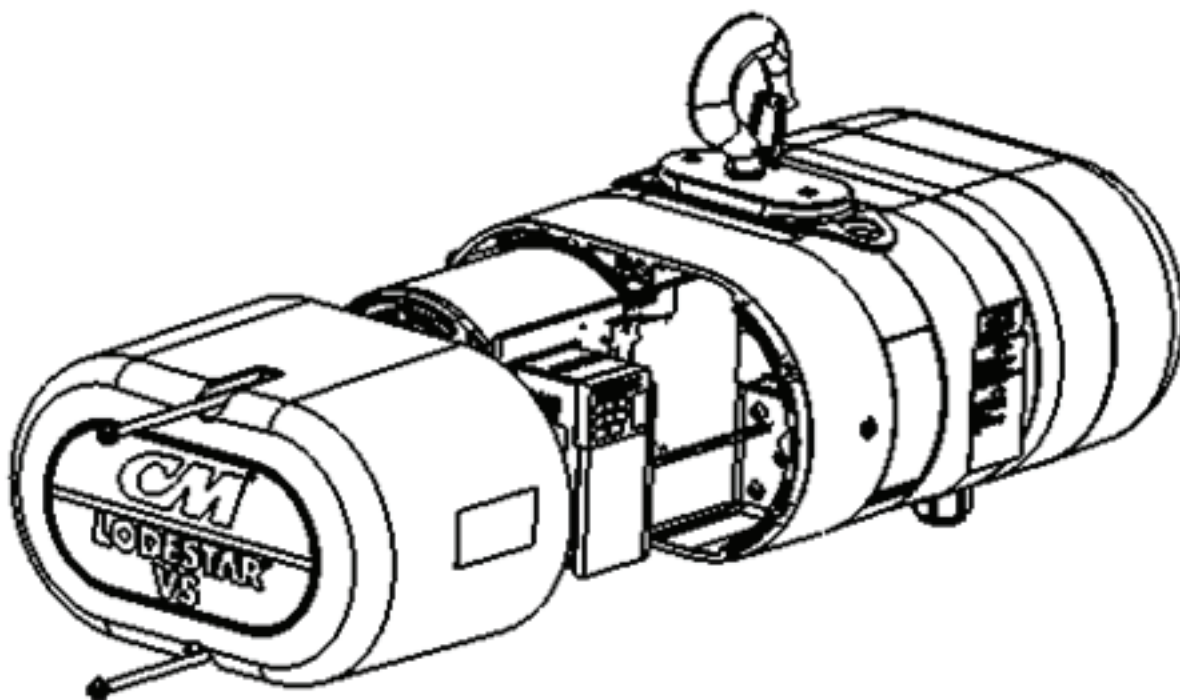

Figure 10: VFD End Cover Removal
1. Remove the hoist VFD end cover to access the VFD location connecting the M12 data port wires (shown in **Figure 10**).